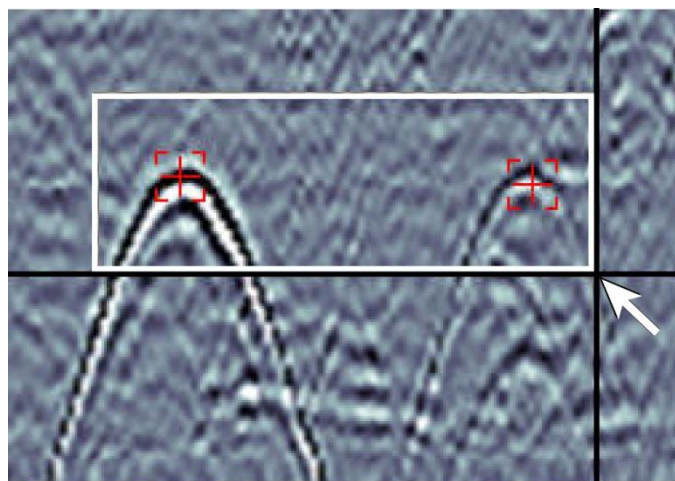

Figure 8-7: Multiple observations are selected by dragging and dropping a box around them. Selected observations can be moved or deleted.
Multiple observations can also be selected by clicking and dragging a box around one or more observations (Figure 8-7).
- 1) Click and drag a box to select one or more observations (Figure 8-7) and then press the Delete key on the computer keyboard.